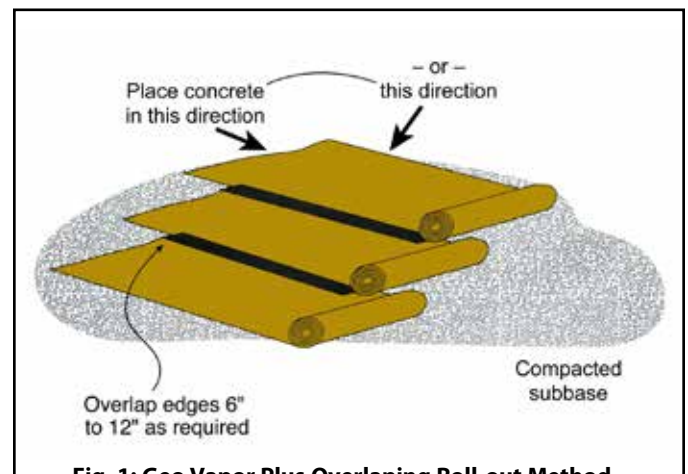

Fig. 1: Geo Vapor Plus Overlapping Roll-out Method
- 1.2. Unroll **Geo Vapor® Plus™** running the longest dimension parallel with the direction of the pour and pull open all folds to full width. (Fig. 1)